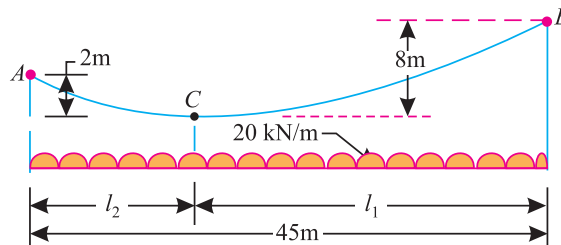

Fig. 15.13.
**Example 15.8.** A Cable is suspended and loaded as shown in Fig 15.13 below :